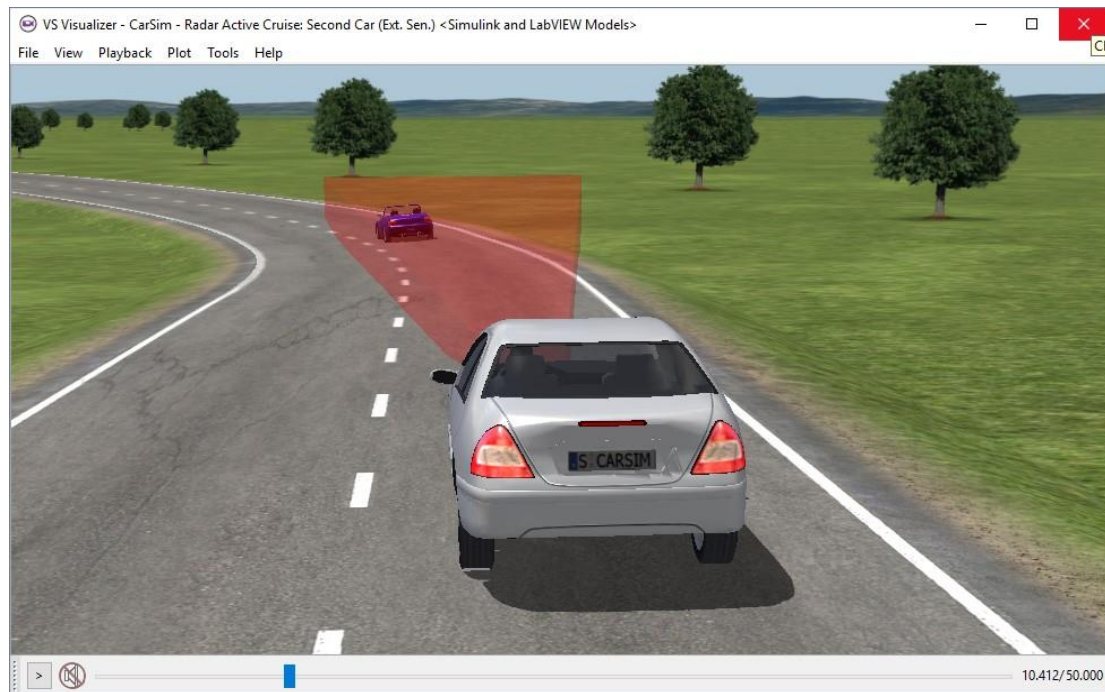

Figure 2. video with the camera following the second car.
Both of the **Run Control** datasets have extensive notes ^② with the steps needed to make a new run from Simulink. Each has a link to the other ^⑤ for the purpose of showing both vehicles in the same video. Each is linked to a **Models: Simulink** dataset that identifies the Simulink model ^④. Although both **Models: Simulink** datasets specify the same Simulink model, they are different in how they connect vehicle data to the model, and how they maintain two independent vehicle math models. View the video for the simulation by clicking the **Video** button from either of the two **Run Control** datasets (Figure 2).